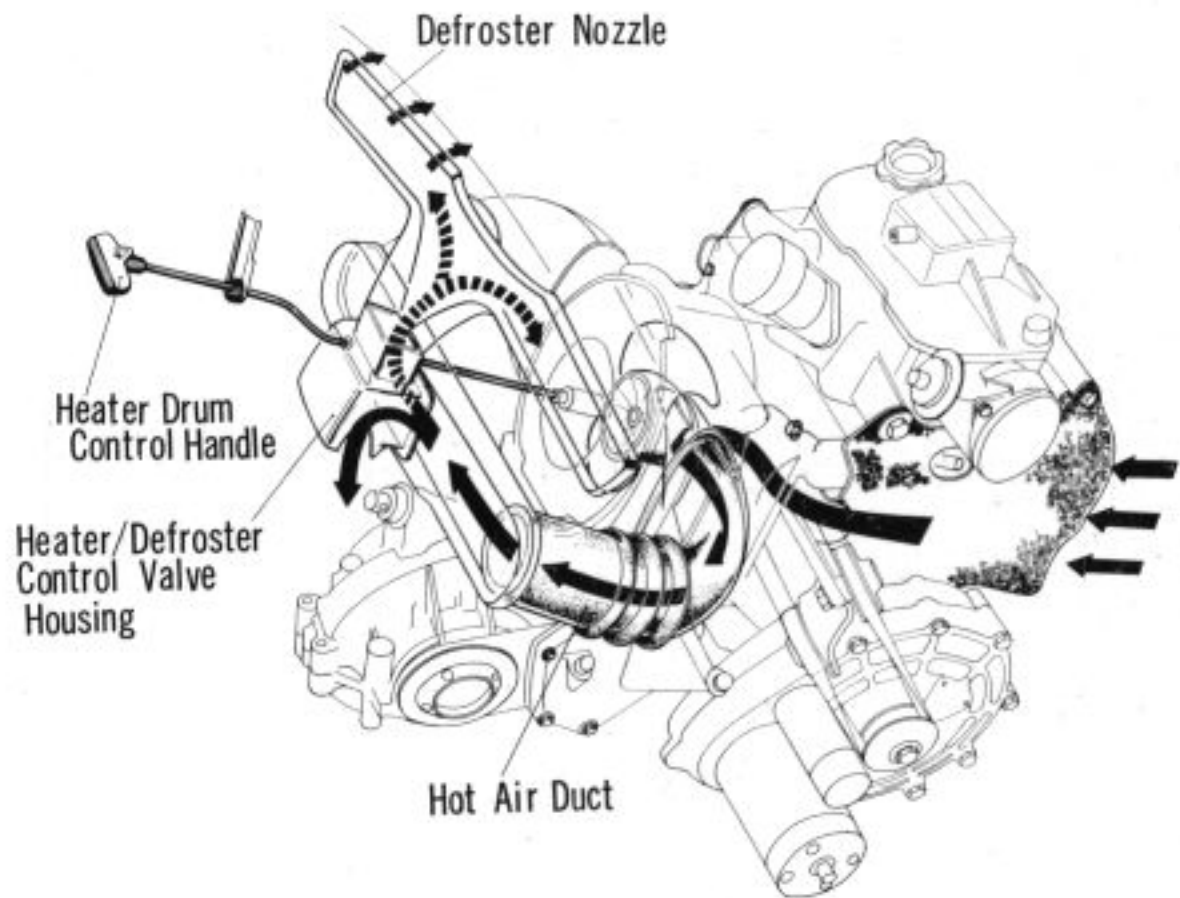

Fig. 16C-1
6. Loosen the screw, and separate the heater/defroster control lever knob from the lever. (Fig. 16C-6)
7. The heater/defroster control lever assembly is installed on the instrument panel with two screws provided on the back side of the panel. (Fig. 16C-7)